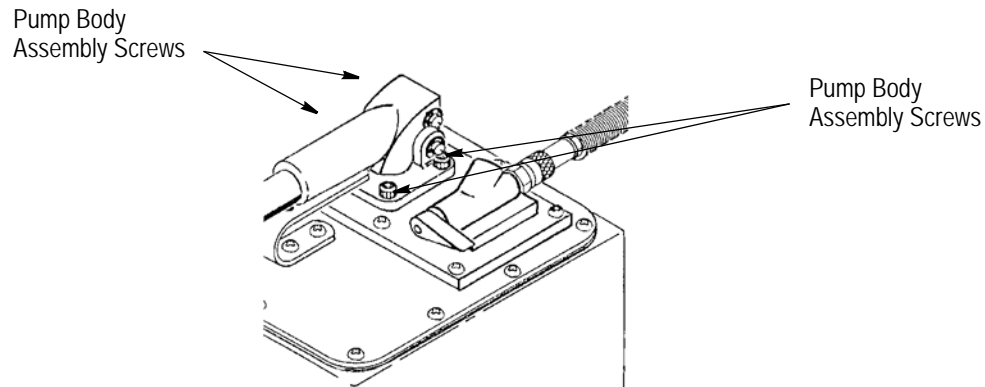

Figure 13
3. Tighten the four pump body assembly screws. Refer to Figure 13.